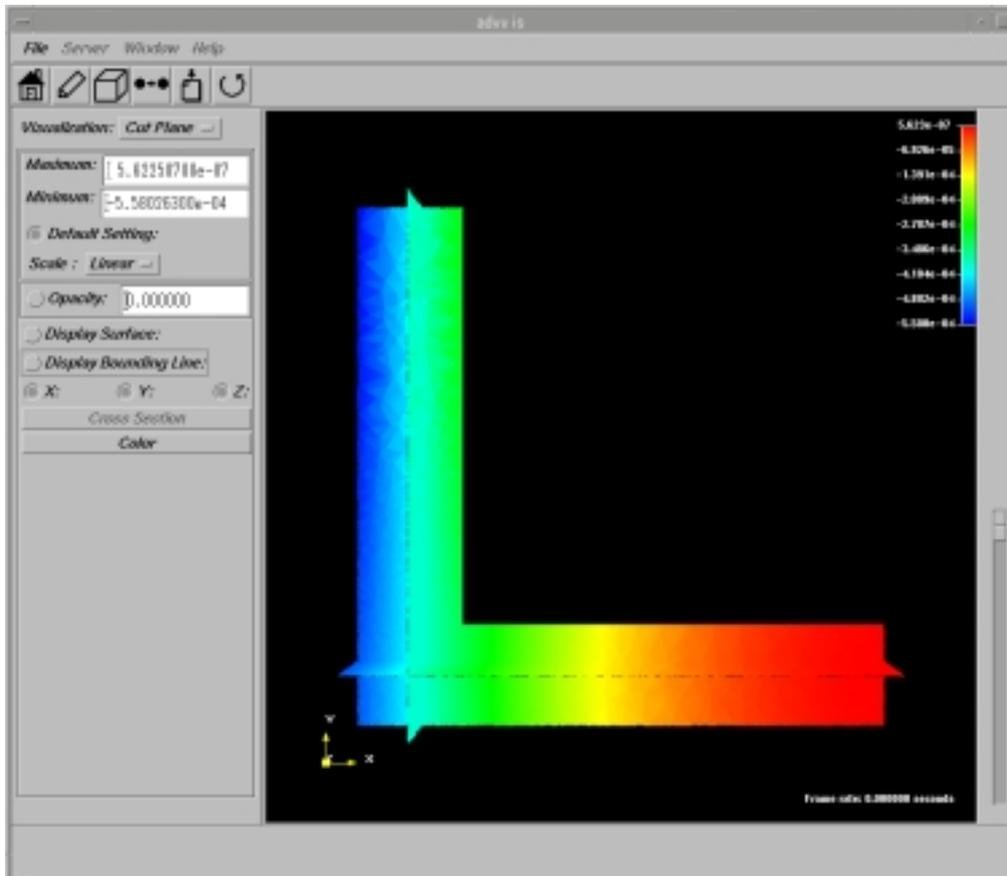
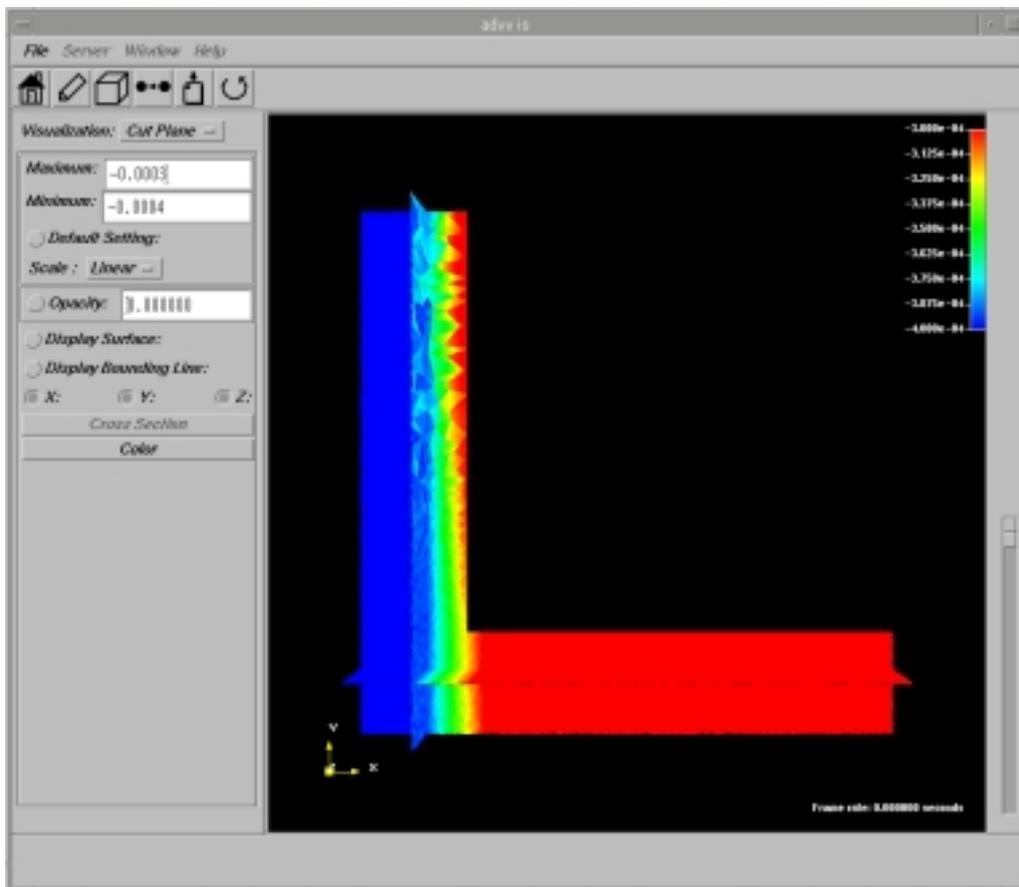

Fig. 7-26. Section Scalar Display (Bounding box is not displayed)
Fig. 7-27. Section Scalar Display (Maximum = -0.0003, Minimum = -0.00044)
6. When the **Display Bounding Line** toggle button located on the left of the main window is turned off, the Bounding box display is excluded as shown in Fig. 7-26. When the **Display Bounding Line** toggle button is turned on, the Bounding box is displayed together with the section scalar distribution.
Fig. 7-27 shows an example when the value of -0.0004 is set from the state of Fig. 7-26 in the **Maximum** input field and the value of -0.0003 is set in the **Minimum** input field.